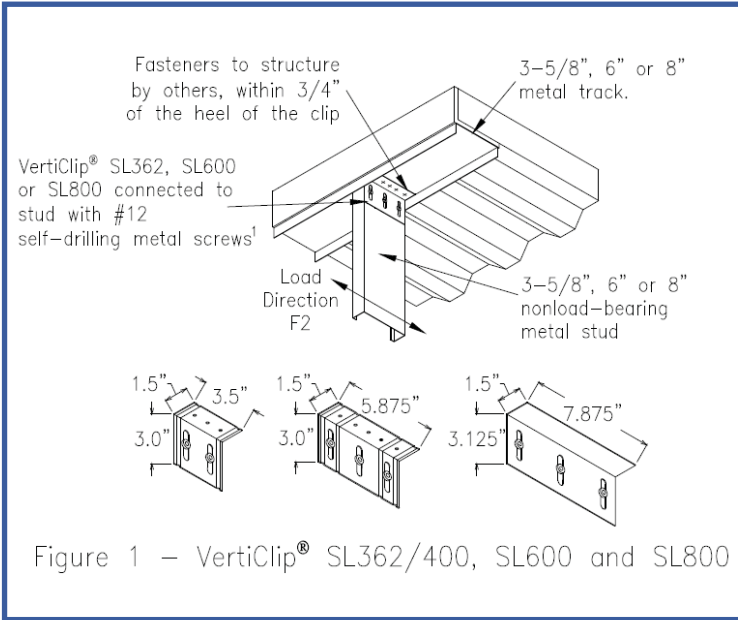

Figure 1 – VertiClip® SL362/400, SL600 and SL800
3.1.2 VertiClip® SL: VertiClip SL362, 600 and 800 are L-shaped angles that connect 3 3/4-, 6- and 8-inch-deep (92, 152, and 203 mm) exterior curtain wall steel studs, respectively, at head of wall to the building's structural frame while allowing for a maximum of 1 1/2 inches (38.1 mm) of vertical movement between exterior wall elements and the primary structure. The minimum base-metal thickness of the clips is 0.0677 inch (1.7 mm). The long leg of the VertiClip SL362, SL600 and SL800 connectors, which is fastened to the curtain wall stud, has two or three vertical slots, each 3/8 inch (9.5 mm) wide by 1 3/8 inches (47.6 mm) long. Refer to Figure 1 for overall dimensions of each VertiClip SL connector and a typical installation detail.
¹ Refer to Figures 1 through 11 for direction of load.